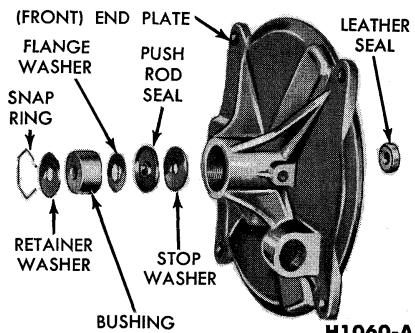

FIG. 46—Hydraulic Cylinder Push Rod Seals
flat side down. Remove the O-ring seal, snap ring and retainer washer, flange washer, push rod seal, and stop washer from the end plate (Fig. 46).
24. Press the leather seal into the hydraulic cylinder bore of the front end of the plate from the inner side of the plate with the lip of the seal toward the outer end of the plate (Fig. 46).
25. Install the push rod seal and related parts in the order shown in Fig. 46. The chamfered side of the washer is down, the lip of the push rod seal is up, the flat side of the flange washer is next to the seal. Install the retaining washer.